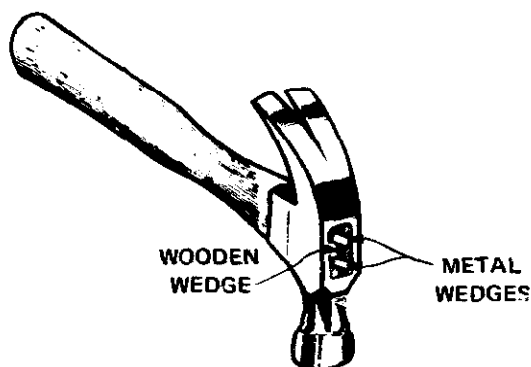

Fig. 11-20 Location of wedges.
9. Form starting grooves for the metal wedges with a cold chisel. Two grooves should be made across the end at a slight diagonal. See the location of the wedges on figure 11-20.
12. Finish the end with a coarse, double-cut file. Avoid filing the hammer head. The completed job should appear as shown in figure 11-20.